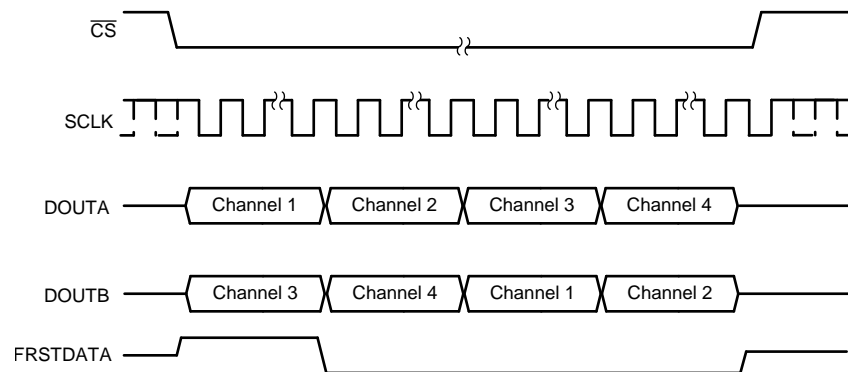

Figure 69. Data Read Back in the Serial Interface Using Either DOUTA or DOUTB Timing Diagram
- The conversion data can be read out of the device using only one of the two serial output lines, DOUTA or DOUTB. In this case, using DOUTA for output data read back is recommended because channel 1 data appear first on DOUTA followed by the data for other channels in ascending order. To read the data for all channels, provide a total of $16 \times 4 = 64$ SCLK cycles for the ADS8584S. This entire data frame can be created within a single \overline{CS} pulse or each group of 16 SCLK cycles can be individually framed by the \overline{CS} signal. The primary disadvantage of using just one data line for reading conversion data is that the throughput is reduced if a data read operation is performed after conversion. Figure 69 shows this operation.
- Alternatively, only DOUTB can be used for reading the conversion data from all channels. In this case, everything else remains the same and the output bit stream contains data for all channels in the following order: channels 3, 4, 1, and 2 for the ADS8584S. Figure 69 shows this operation.